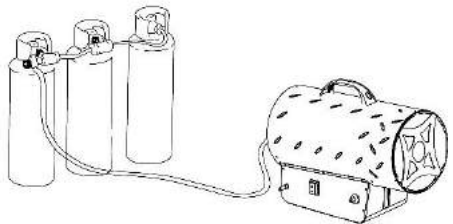

Figure 1
- 1.9.If the heater has to work for a long period at its maximum capacity, it's possible that ice will form on the cylinder. This is due to excessive vapour withdrawal. Not for this reason, or for any other, should the cylinder be heated. To avoid this effect, or at least to reduce it, use a large cylinder or two cylinders linked together (Figure1)